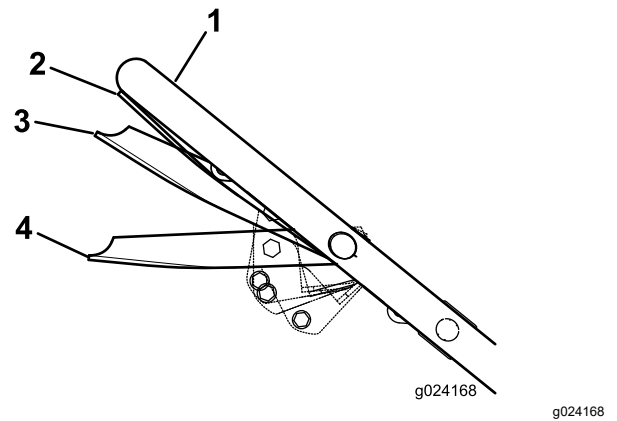

Figure 15
3. Squeeze the blade-control bar against the handle to the Run/Drive position (Figure 15).
**Important:** Shifting speeds while squeezing the blade-control bar against the handle in the Run/Drive position could damage the transmission. Move the blade-control bar to the Run/Shift position (Figure 15) whenever you change the ground speed.